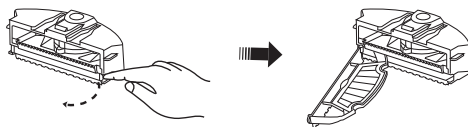

Fig. 6
- 5(a). Release the HEPA dust filter bracket to slide it open by pulling the semi-circular tab on the bracket with one hand while pulling the fastener down with the other hand (Refer Fig. 6).